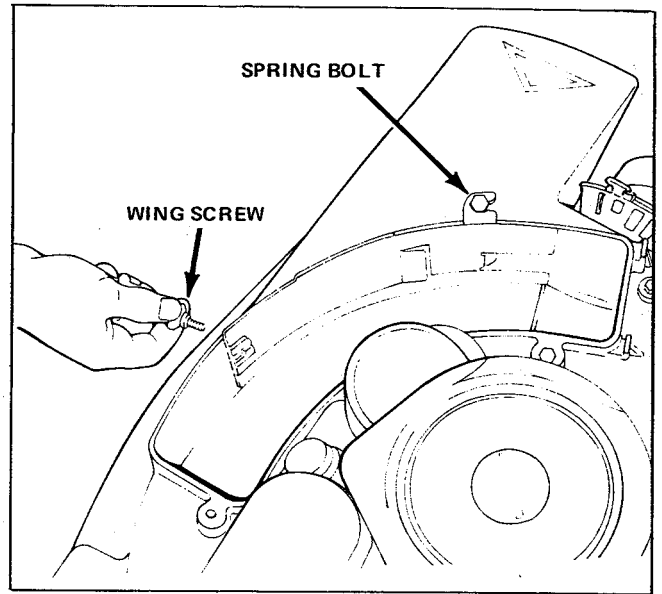

Figure 8. Remove Grass Deflector Plate
3. Install the grass deflector plate in the mower deck by sliding the slot under the front spring bolt. (See figure 8).
4. Insert and tighten finger tight the wing screw provided through the mower deck into the grass deflector plate. (See figure 8).
To use your mower as a mulcher, install the grass deflector plate (see figure 8) and the mower deck plate.